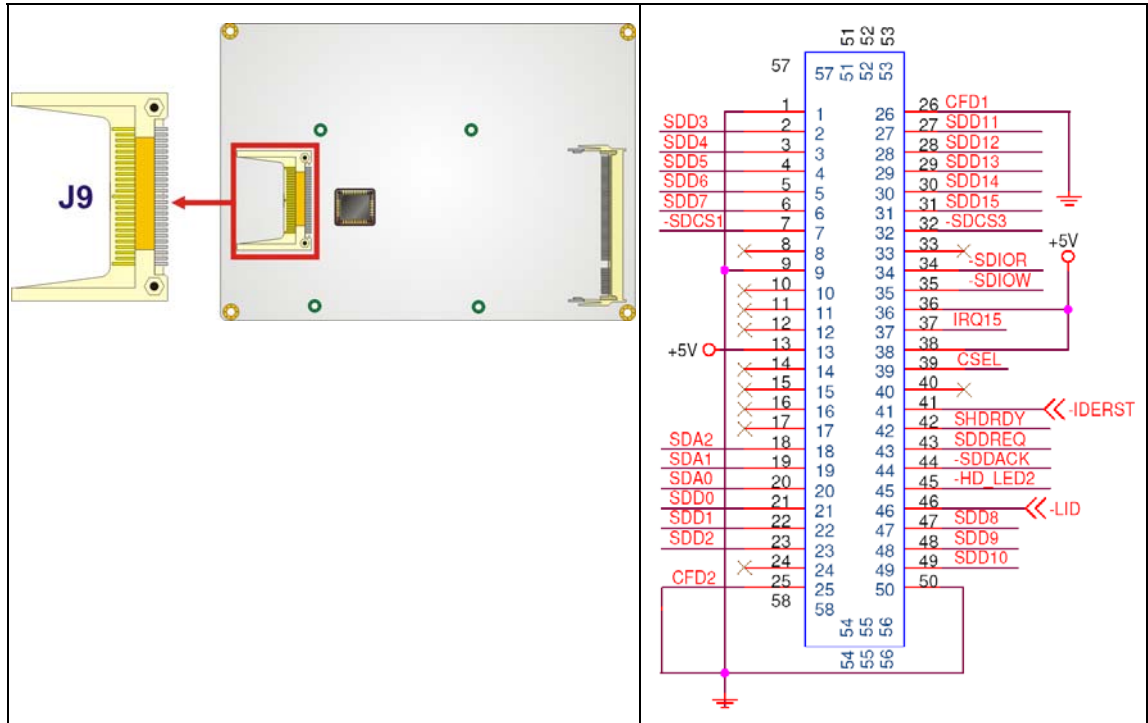

Figure 4-7: CF Card Socket Location
- CN Location:** See Figure 4-7